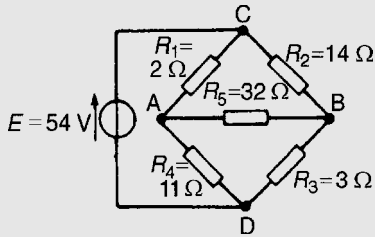

Figure 13.47
**Problem 12.** A Wheatstone Bridge network is shown in Fig. 13.47. Calculate the current flowing in the 32 Ω resistor, and its direction, using
Hence the current in the 32 Ω resistor of Fig. 13.47 is 1 A, flowing from A to B